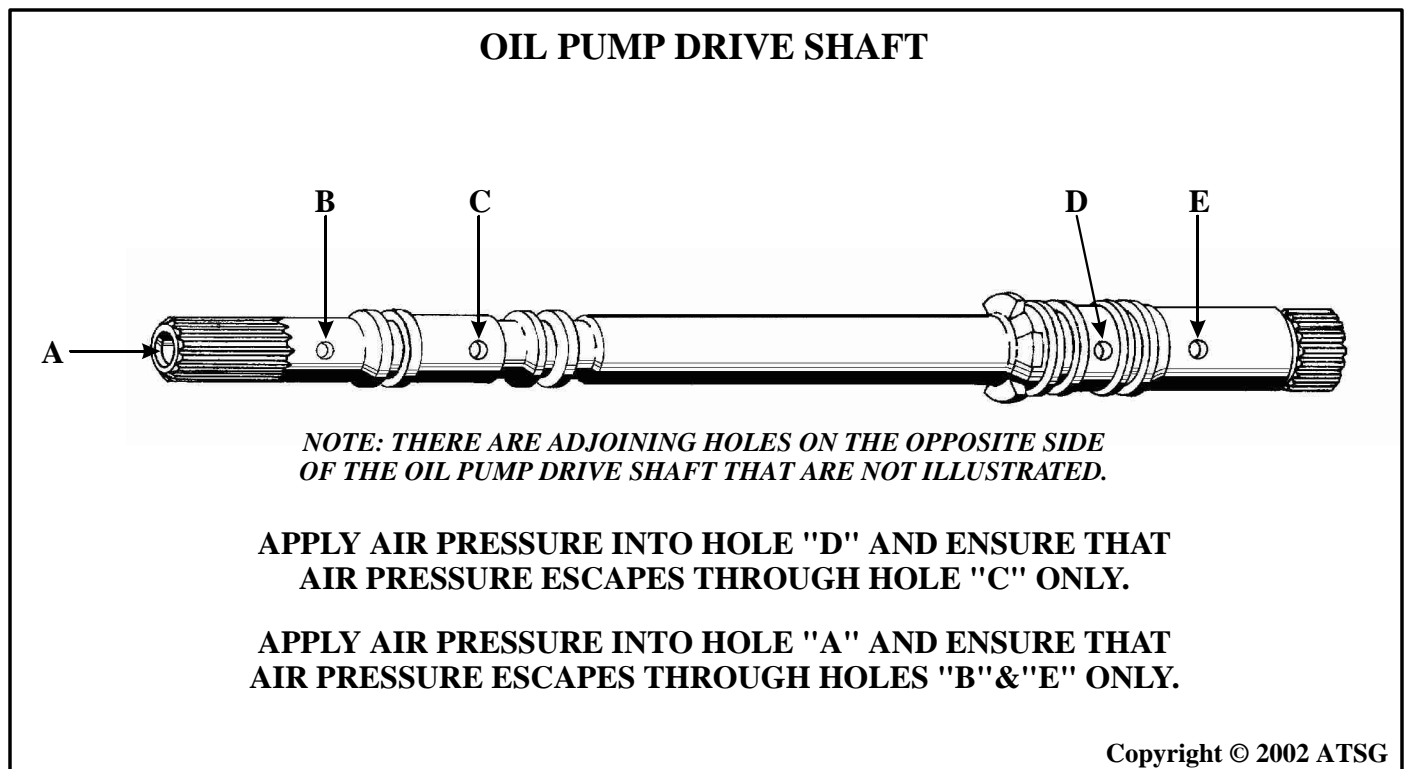

Figure 64
**CORRECTION:** Refer to Figure 64 to *check* the Oil Pump Drive Shaft, and clean or replace as necessary.